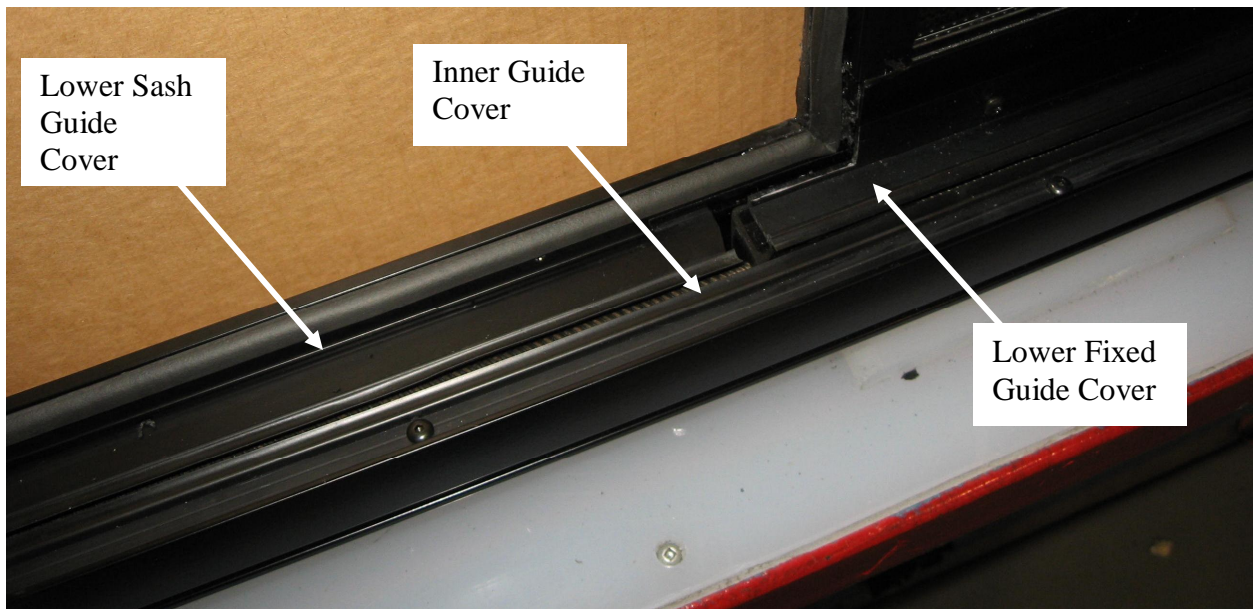

Figure 16
- 2) Remove the inner guide cover followed by the lower fixed guide cover and the lower sash guide cover (Figure 16)